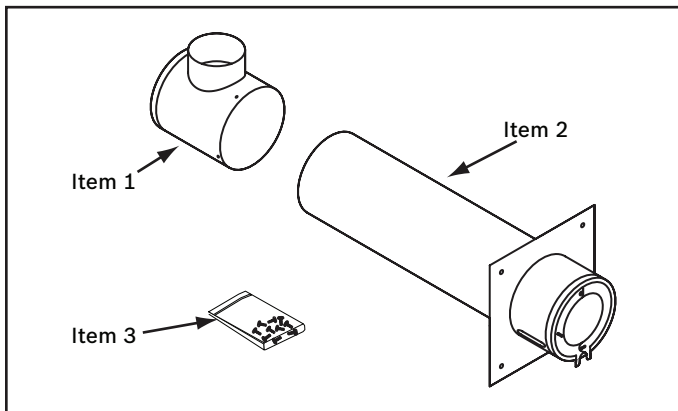

Fig. 1 Concentric vent kit components
See Figure 1
5. Insert Item 2 (Fig. 1) through exterior wall from the outside until flange is flush with wall surface. Ensure that combustion air openings on Item 2 face toward the ground as shown in Fig. 6. Secure flange to exterior wall with screws provided.
6. Connect item 1 to item 2 (Fig. 1) from inside the structure. The air intake connection opening (Item 1) can be turned to best suit the connection of the intake pipe. Secure both items with machine screws provided.